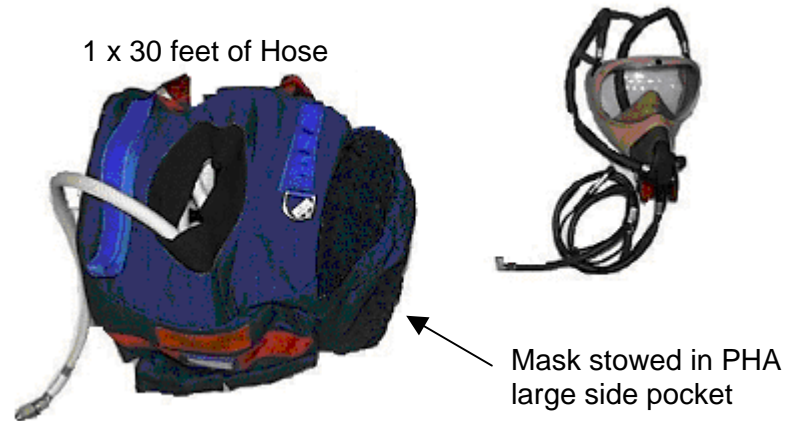

Figure 2.- Spare PHA Bag Configuration.
3.1 Configure spare PHA Bag as shown in Figure 2.